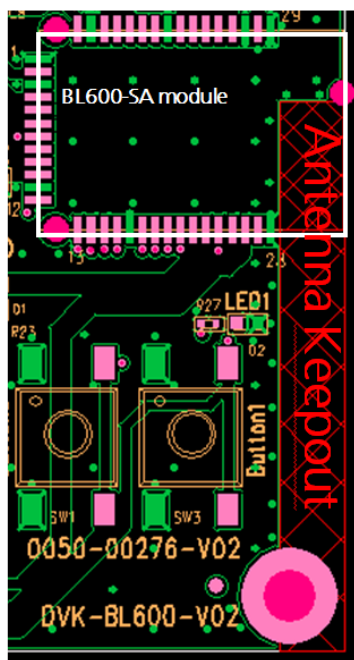

Figure 11: Antenna keep-out area (shown in red), corner of the BL600 development board for BL600-SA module.
- The BL600 development board has the BL600-SA module on the edge of the board (not in the corner). The antenna keep-out area is defined by the BL600 development board which was used for module development and antenna performance evaluation is shown in Figure 11, where the antenna keep-out area is ~4.2 mm wide, 34.2 mm long; with PCB dielectric (no copper) height 1.539 mm sitting under the BL600-SA antenna.
- Host PCB Land Pattern and Antenna Keep-out for BL600-SA applies when the BL600-SA is placed in the corner of the host PCB. When BL600-SA cannot be placed as such, it must be placed on the edge of the host PCB and the antenna keep out must be observed. An example is shown in Figure 11.
- Follow the 50-Ohms trace design used on the BL600 development board (PCB stack-up in Figure 11). If this PCB-stack-up is not practical on customer design then design 50-Ohms for differing PCB stack-up.